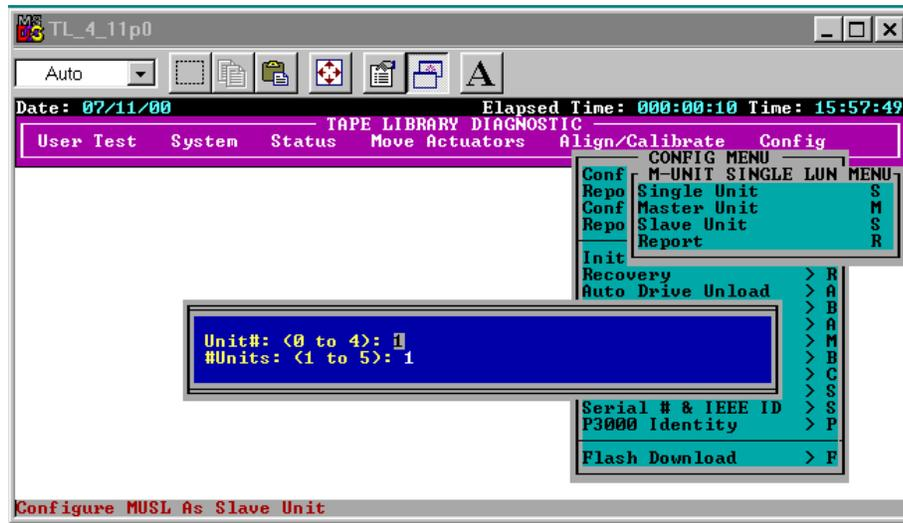

Figure 3-14. Configuration sub-menu dialog box
4. After selecting Master Unit or Slave Unit, enter the Unit # (0-4) for the library and # Units (1-5) for the number of libraries in the multi-unit library system (see Figure 3-14).